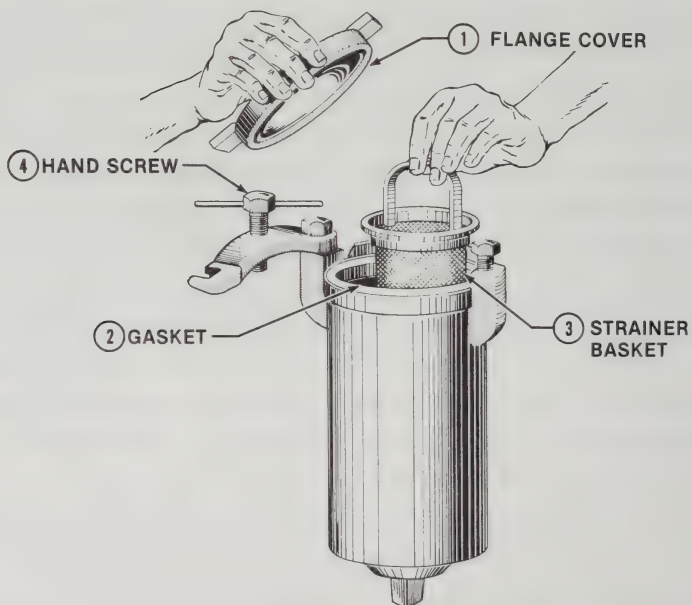

Figure 5-5. Fuel oil strainers must be cleaned more frequently when using heavier grades of fuel oil. (*The Kraissl Co., Inc.*)
If No. 6 fuel is being used, the strainers should be cleaned every 24 hours. See Figure 5-5. The flange cover (1) is removed and must be cleaned whenever the strainers are cleaned. At this time, the gasket (2) should be replaced carefully to prevent air from getting into the system. The